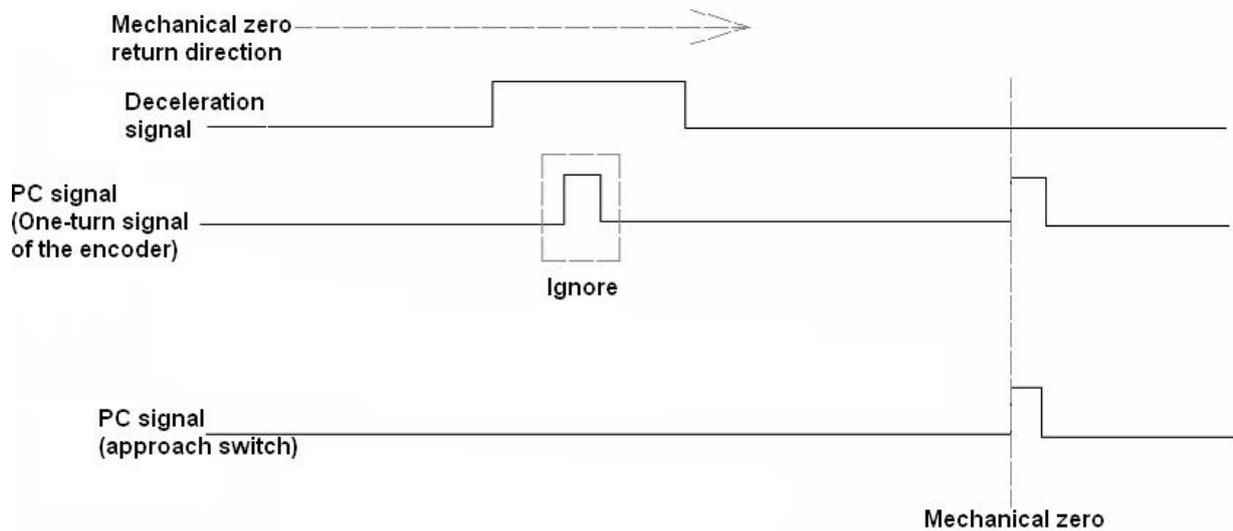

Fig. 2-8 PC signal waveform
a) The user should provide the wave of PC signal, which is shown as the following figure 2-8: